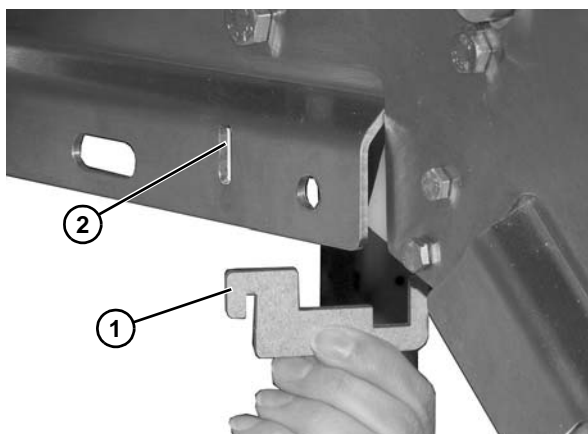

Figure 22
1. Install belt return mounting bracket (**Figure 22**, item 1) into slotted frame hole (**Figure 22**, item 2).